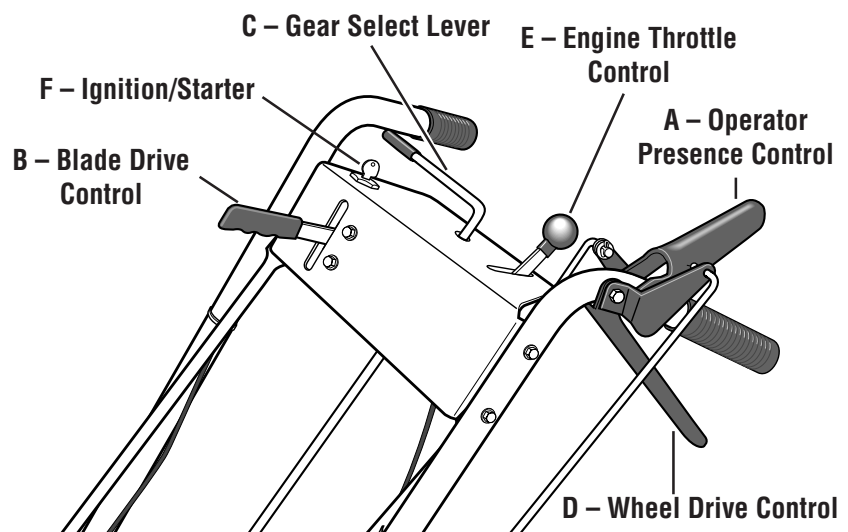

Figure 4-2: Mower Controls
The mower can be manually pushed or pulled by putting the Gear Select Lever (C, Figure 4-2) in N (neutral) and pressing and holding the Operator Presence Control (A, Figure 4-2) down against the handlebar grip.
3. Move Engine Throttle Control (E, Figure 4-2) fully upward to choke setting to start a cold engine or to fast (rabbit) setting to start a warm engine.
- B. Turn ignition key (F, Figure 4-2) fully clockwise to crank engine. To avoid damage to starter motor, do not crank engine for longer than five seconds at a time. Also, allow 15 seconds between each start attempt. If engine fails to start after three attempts, repeat instructions starting with Step 2 (try setting throttle at fast setting).
2. Press and hold Operator Presence Control (A, Figure 4-2) against handlebar grip.
3. Slowly push Blade Drive Control (B, Figure 4-2) fully forward until it stays in the engaged position. The blades are now rotating.
- A. Press and hold Operator Presence Control (A, Figure 4-2) against handlebar grip.
- B. Put the Gear Select Lever (C, Figure 4-2) into one of the numbered settings (1 - Slow, 2 and 3 - Medium, 4 - Fast). When first practicing with
the Wheel Drive Control (D, Figure 4-2). The harder you squeeze, the faster the wheels will turn. To avoid sudden acceleration, slowly squeeze the lever.
releasing the Operator Presence Control (A, Figure 4-2).
- C. Put the Gear Select Lever (C, Figure 4-2) in R (reverse) setting by first moving lever to N (neutral). Then pull lever up, turn it to R position, and release lever.
- D. To start the wheels, slowly squeeze Wheel Drive Control (D, Figure 4-2). To avoid sudden acceleration, slowly squeeze the lever.